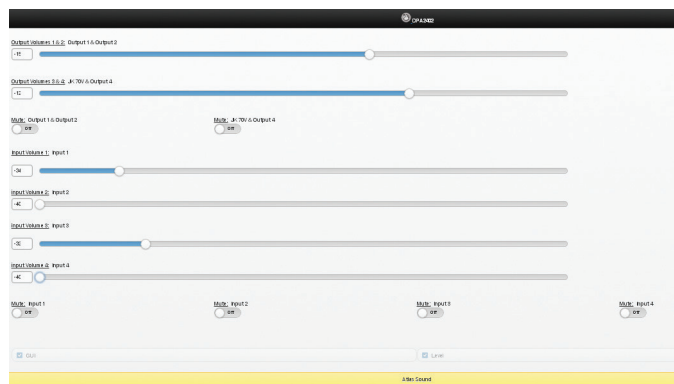

Figure 4
4. The GUI will open to a Mobile page as shown in Figure 4. Mobile access will allow for volume level adjustment and home page access once the administrator user name and password are accurately entered when prompted.